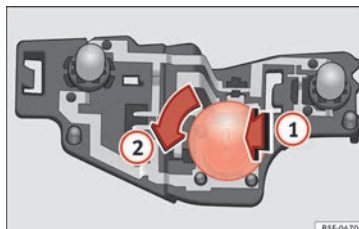

Fig. 114 Position of the bulbs in the bulb holder
- Lightly press the defective bulb into the bulb holder **1**, then turn it to the left **2** and remove it » **Fig. 114**.